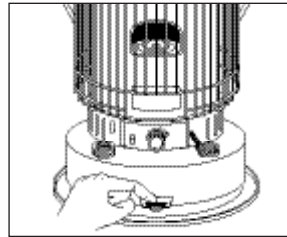

Fig.13
- i 'Push the ignition lever(Fig. 13) to bring the glowing igniter into contact with the wick.